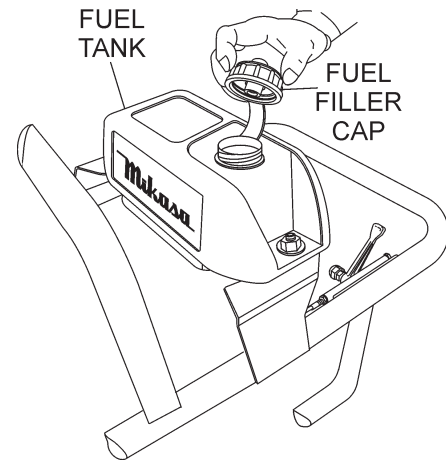

Figure 4. Fuel Tank
1. Fill the fuel tank (Figure 4) with unleaded gasoline. **DO NOT** overfill, wipe up spilled fuel immediately.